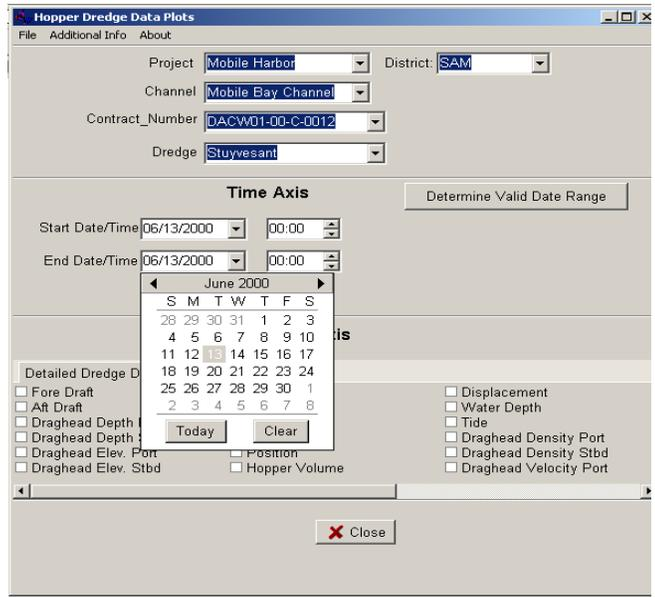

Figure 2.4 Time range pull-down menu.
3. Specify the time range of data to plot from the pull-down menus as seen in Figure 2.4. Clicking on *Determine Valid Date Range* in the Data Plot window will automatically set the time range to span all existing data for the project.